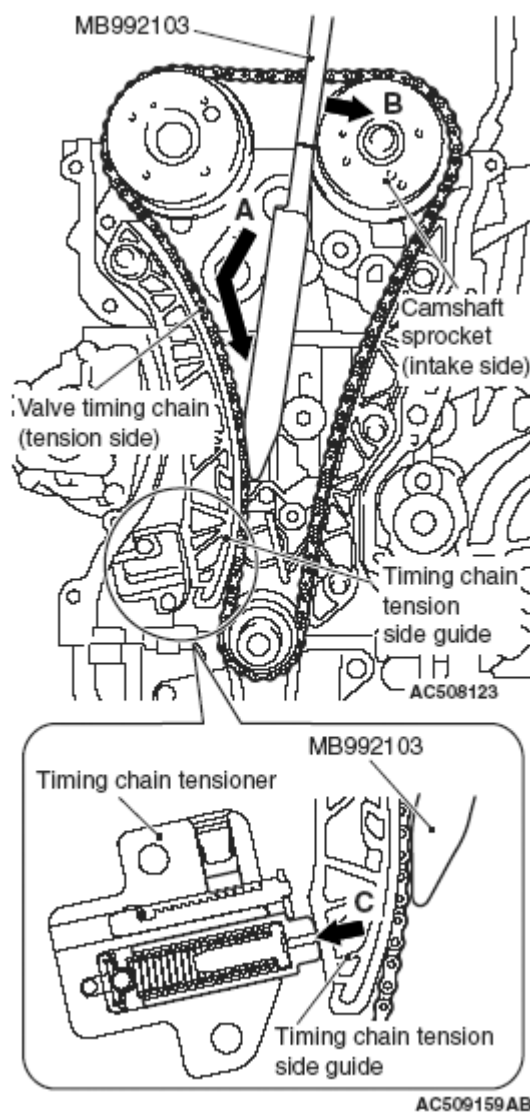

Fig. 31: Pressing Special Tool MB992103 Against Intake Side Camshaft Sprocket And Spread
2. With the timing chain tensioner unlocked, insert special tool MB992103 inside the timing chain case assembly along the tension side of the timing chain until the insertion guide line aligns with the upper surface of the timing chain case assembly (A in Fig. 31.)
NOTE: With the timing chain tensioner unlocked, insert the special tool MB992103 along the tension side of the timing chain, according to the special tool MB992103 top shape. The special tool MB992103 can be inserted smoothly to the position where the special tool MB992103 insertion guide line aligns with the timing chain case assembly top surface (B in Fig. 31), and the spread timing chain tension side guide can be held (C in Fig. 31.)